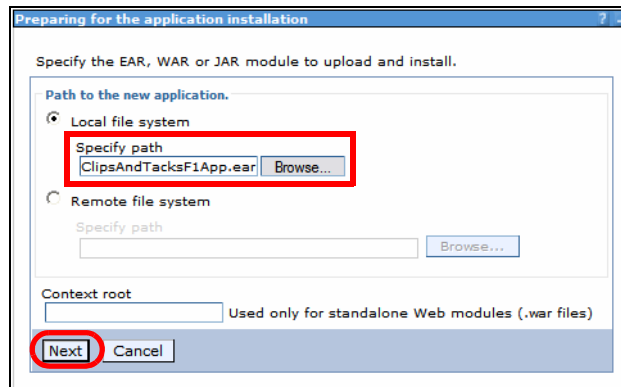

Figure 13-2 EAR installation: Location
- ▶ Click *Browse* to locate the EAR file (Figure 13-2):